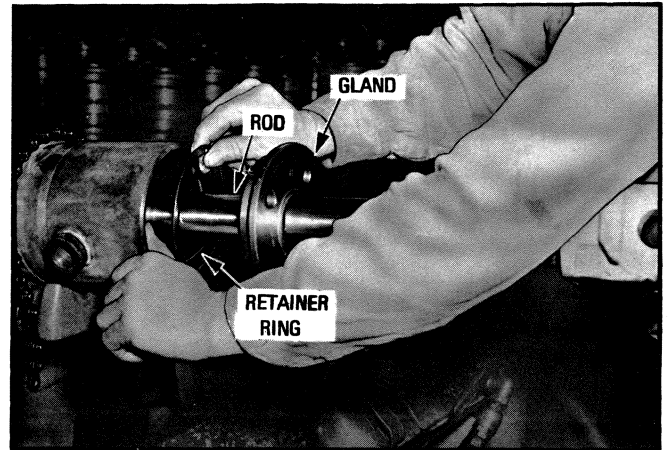

Fig. 8—Installation of Retaining Rings
13. Install the rod assembly, piston first in the barrel. When the piston and head are in place, install the retainer ring. See Fig. 8.